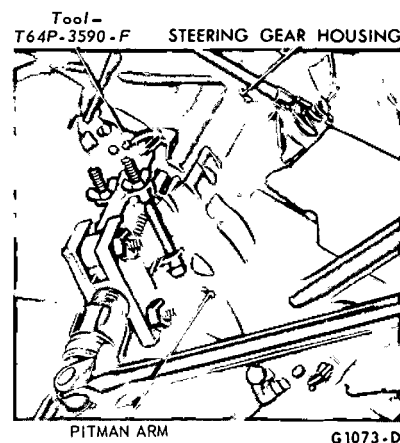

FIG. 15—Removing Pitman Arm—Typical
11. Remove nut and washer. Install Tool T64P-3590-F and remove the Pitman arm from the sector shaft (Fig. 15).
8. Raise the vehicle and remove the Pitman arm attaching nut and remove the Pitman arm with Tool T64P-3590-F (Fig. 15).
3. Remove the Pitman arm attaching nut and washer and remove the Pitman arm from the sector shaft with Tool T64P-3590-F (Fig. 15).
2. Remove the Pitman arm from the sector shaft with the tool shown in Fig. 15.